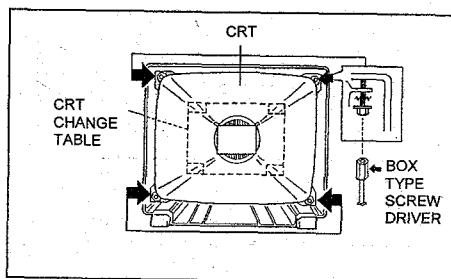

Fig. 4
- While keeping the surface of CRT down, mount the TV set on the CRT change table balanced will as shown in Fig.4.
- Remove 4 screws marked by arrows with a box type screw driver as shown in Fig.4.